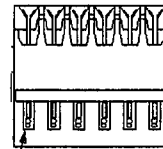

FIGURE 1
- 4.0 CONDUCTOR REQUIREMENTS: SEE FIGURE 1 (7,10,16,19 STRANDED WIRE IS APPROVED BY MOLEX)